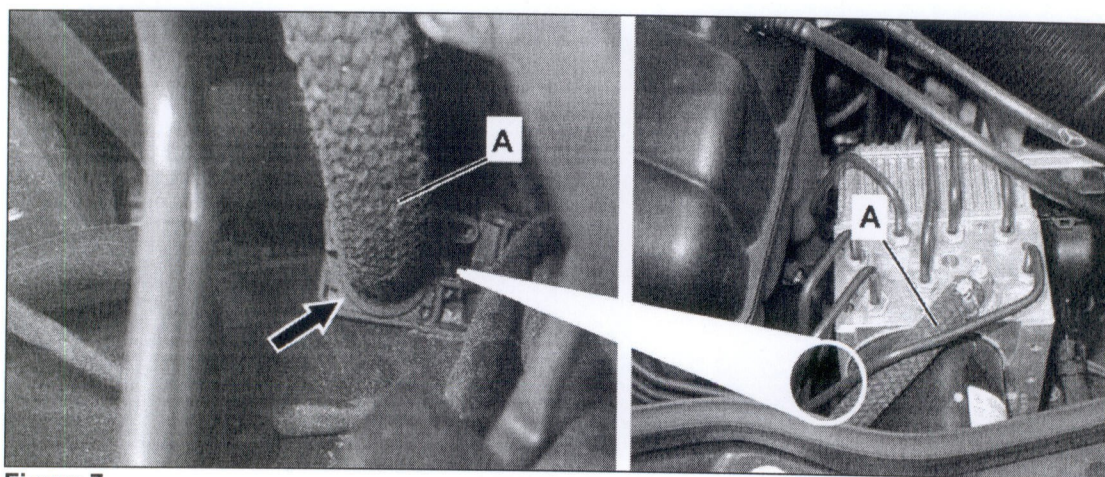
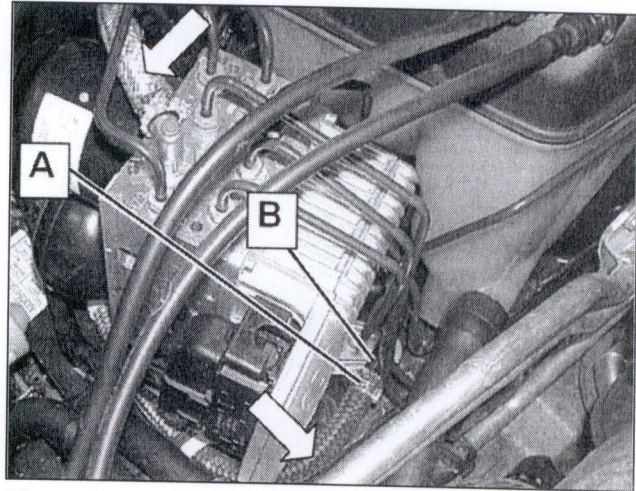

Figure 7
Figure 8
9. Replace suction hose (A, Figure 7):
- Open the suction hose mounting clip (arrow) and remove suction hose (A) from bracket.
- Remove hose clamp (A, Figure 8) then remove suction hose (arrow) from suction line (B) using a plastic wedge (Example: Special Tool: W110 589 03 59 00).
- Do not use sharp-edged tools (e.g., screwdriver) to remove suction hose (arrows, Figure 8) from suction line (B), as this may cause damage to the SBC brake system.
- When removing suction hose (arrow), do not bend suction line (B).
- To prevent brake fluid from running out and to prevent contamination in the brake system, the suction hose (arrows, Figure 8) and line (B) are to be plugged using suitable plugs from the stop plug kit (Special Tool: W129 589 00 91 00).
- Discard old suction hose (arrow) and clamp (A) after removal.